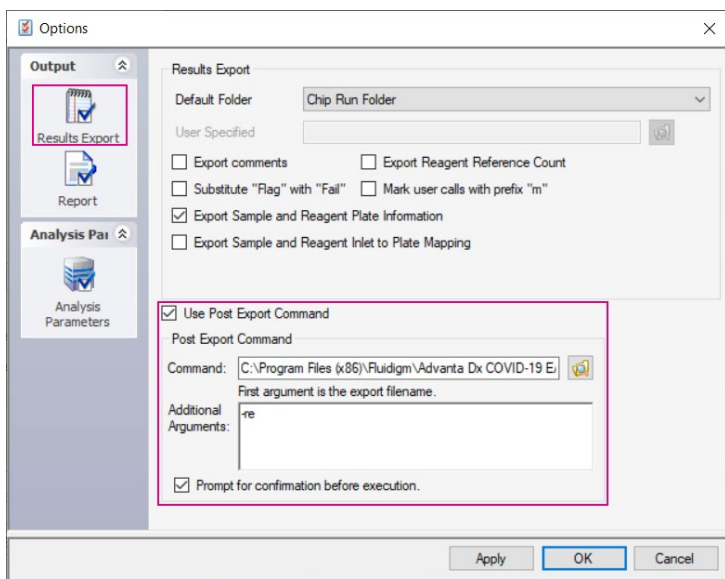

Figure 15. Results Export options
- 6 Place the loaded IFC on the instrument tray and align the notched A1 corner on the IFC with the A1 label on the tray (Figure 15). In the Data Collection software, click **Load**.